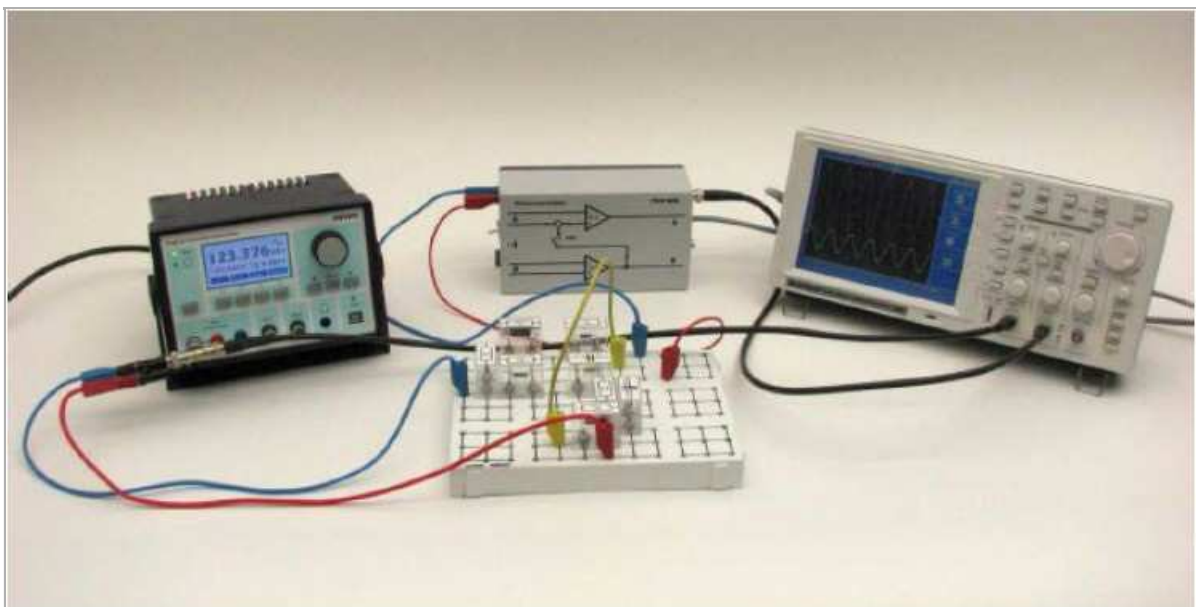

Fig. 1: Experimental setup: the Wien-Robinson bridge.
- Set up the experiment in accordance with Fig. 1 or the circuit diagrams in Figs. 2 to 6. To measure the frequency response point by point, the input and output voltages  $U_i$  and  $U_o$  are measured with the oscilloscope. Split the generator signal with the BNC T-plug, as seen in Fig. 1. Connect one out-put directly to one of the oscilloscope channels, and the other through the analyzed circuit to the other oscilloscope channel. Adjust the oscilloscope channel settings to properly see